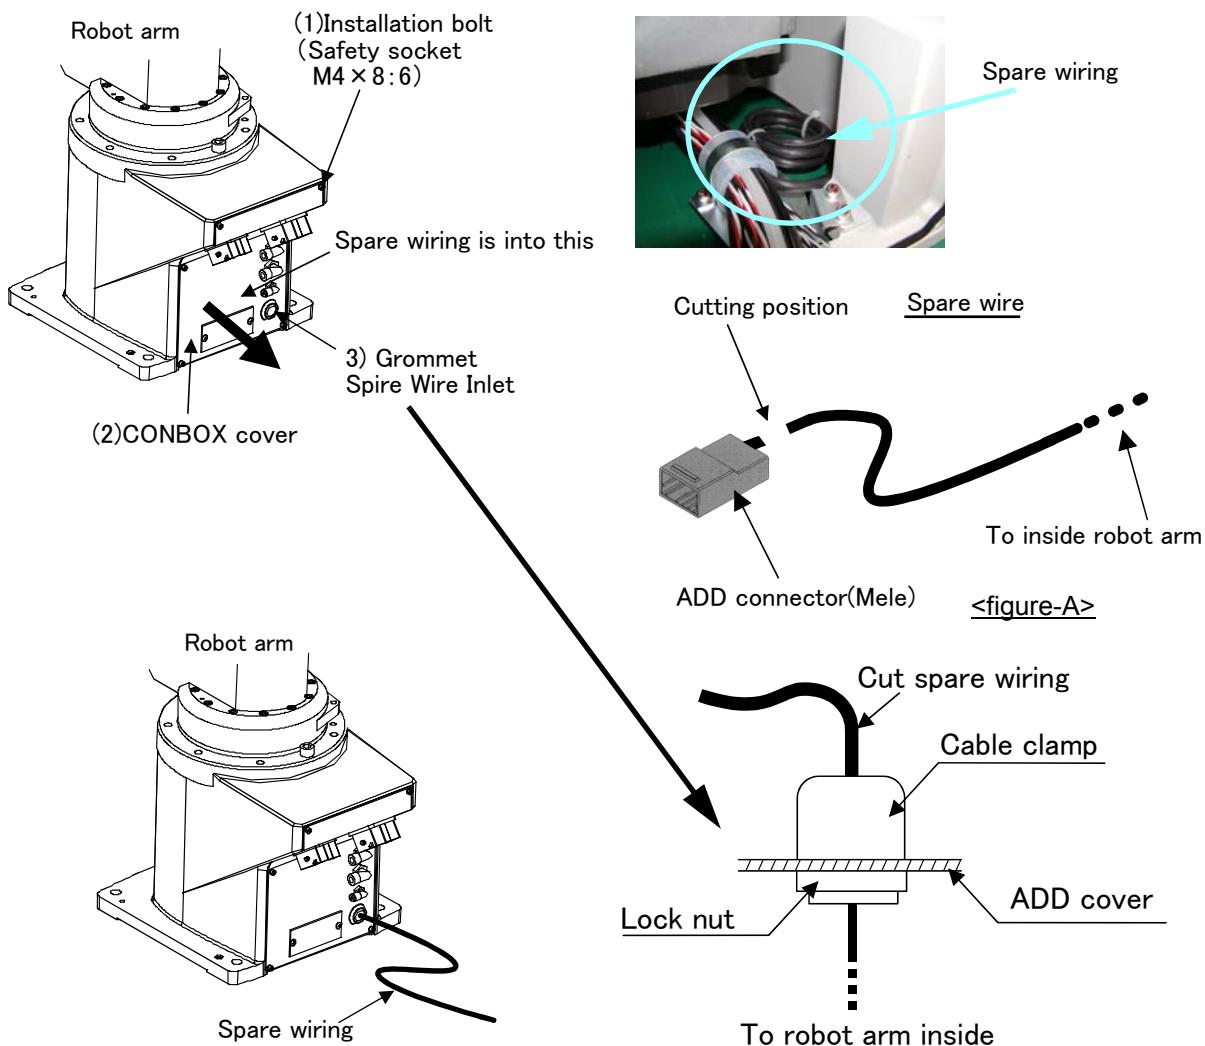

Fig.2-9 : Pull out spare wiring(Base area)
- 5) Cut spare wiring near the connector (from the connector end to the about 10–20mm. Refer to figure-A in Fig. 2-9)
- 10) Install CONBOX cover(2) as before. Apply the screw lock to installation bolt (1), fix it with torque (4.1Nm to 4.9Nm). (Recommendation screw lock: Lock tightness 242 (Henkel Japan maker:, Inc.) Be careful not to damage the seal material of the shape of the sponge pasting on "A section" If it damages, there is a possibility that protection specification may fall. Also be careful not to insert the cable